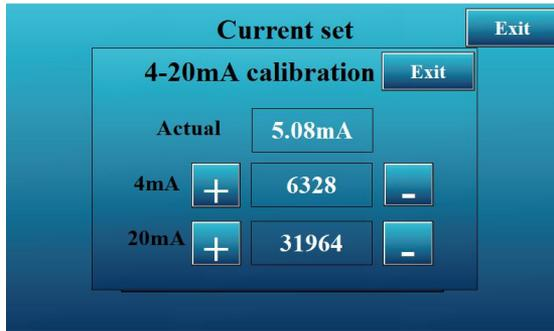

Fig.21 4~20MA CAL interface
**4~20mA CAL:** If the display and output are different, recalibrate the 4~20mA output, as shown in Fig.21.